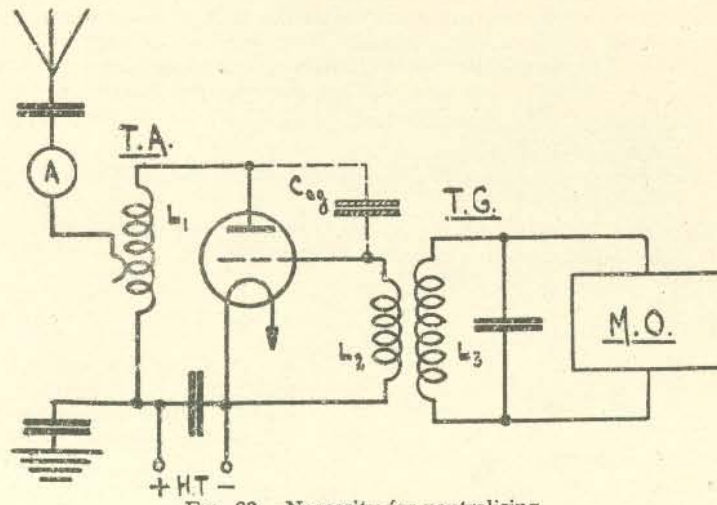

FIG. 63.—Necessity for neutralising.
7. Hendrodyne (Neutralising).—At high R.F. the P.A. may act as a T.A.T.G. oscillator, the grid circuit being the M.O. anode circuit and the coupling device (fig. 63). The aerial is also coupled to the M.O. output circuit via the C_{ag} of the P.A. and the coupling device $L_2 L_3$. Hence this coupling must either be destroyed or "neutralised".